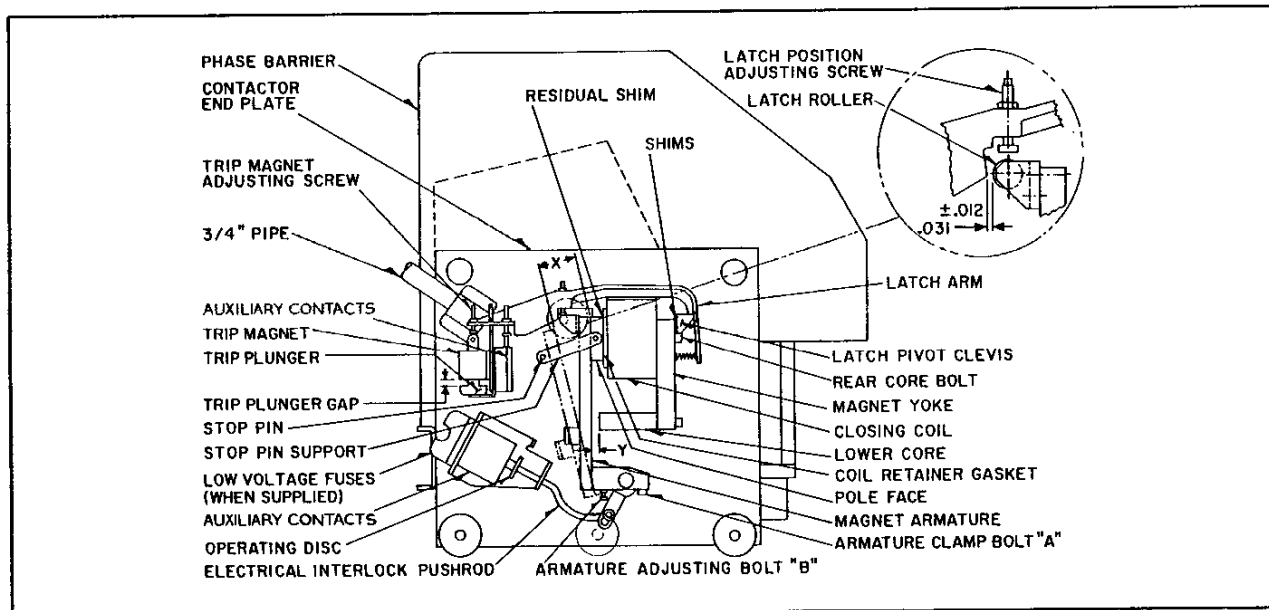

Fig. 11 Magnet Adjustments (Dwg 3513C85)
Check, and if necessary adjust contact overtravel. Overtravel is measured at point "X" of Figure 11 at the tip of the magnet armature. With new contacts this dimension should be .62" \pm .016" when the main contacts are at the touch point.
- 1) Loosen the two bolts at "A" in Figure 11 which clamp the magnet armature to the shaft.
- 2) Block the magnet armature to provide a gap of .62" at point "X" of Figure 11.
- 3) Adjust bolt "B" in Figure 11 as required to make
- a) Add or subtract .012 thick shims between latch pivot clevis and closing magnet yoke as required to make the corner of latch arm clear the extreme projection of latch roller by $.031 \pm .012''$, when the latch arm drops into the latched position and the closing magnet armature is tight against the pole face (See Fig. 11)
4. Install the new coil on the core assembly being sure the residual shim and coil retainer gasket are mounted as shown in Figure 11.
The third Type L-64 auxiliary contact unit which is used to insert a protective resistor in the magnet coil circuit, is mounted on the lower magnet core and is operated directly by the magnet armature. In this application a "late break" operation is required so the auxiliary contact is permanently mounted in a position such that its contacts will open when the armature gap "X" of Figure 11 is approximately .188".